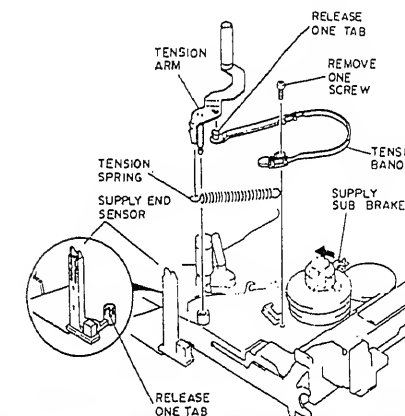

Fig. 2-69
1. Remove one (1) tab of the supply end sensor. (See Fig. 2-69)
3. Remove one (1) screw holding the tension band.
6. Release one (1) tab and remove the tension band from the tension arm.